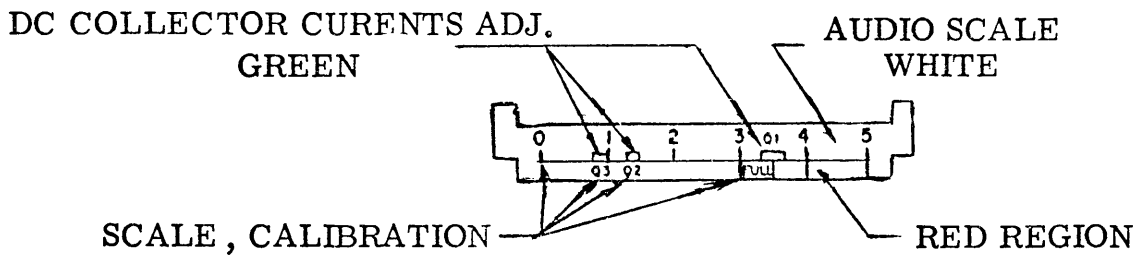

Figure 3-2, Front Panel Monitor Indicators
Before attempting to set up the exciter, be sure the Initial checkout procedure outlined in Section 2 has been completed. The various MONITOR Scales (see figure 3-2) indicate the adjustments necessary for the proper R-F output level needed for an associated linear power amplifier. The operator should familiarize
- a. Set power switch (10) at ON.
- b. Set EXCITER switch (12) at ON when using either the USB or LSB 600 line inputs. Set EXCITER switch (12) at PTT when using a mike input.
- c. Set USB (5) and LSB (4) controls at 0.
- d. Select the ISB position on the MODE switch (13).
- e. Select the desired operating frequency with the frequency selection switches (14).
- f. Turn the METER switch (2) to the LSB position and adjust the LSB MIKE/LINE control (4) for a MONITOR (6) indication of up to but not to exceed the red region.
- g. Turn the METER switch (2) to the USB position and adjust the USB MIKE/LINE control (5) for a MONITOR (6) indication of up to but not to exceed, the red region.
- h. Turn METER switch (2) to the CARR. position and adjust CARRIER control (8) to FULL (refer to figure 3-2) or the desired level indicated on MONITOR (6).
- i. Turn METER switch (2) to the RF position and adjust RF OUTPUT control (1) for the level of RF output indicated on MONITOR (6).